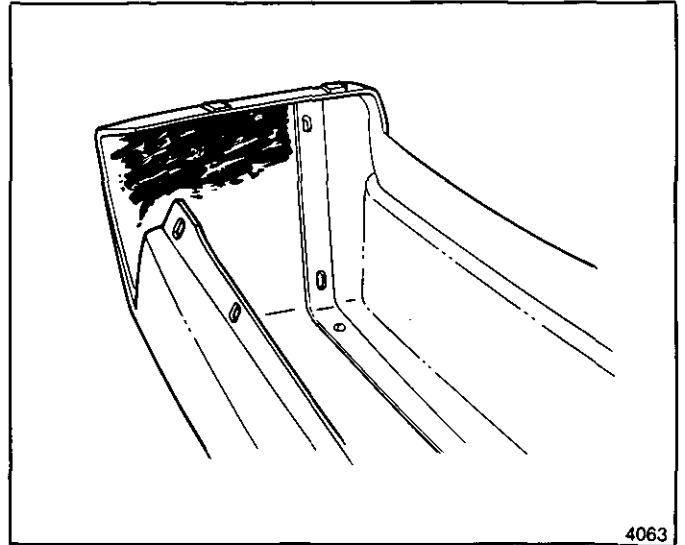

Fig. 1-22-Applying Repair Material - Back Side of Damage
- As in step 1c, thoroughly mix a quantity of adhesive and apply a layer of the mixture approximately 3 mm (1/8" thick on the back side of the part overlapping the break at least 38 mm (1-1/2") as in Figure 1-22.